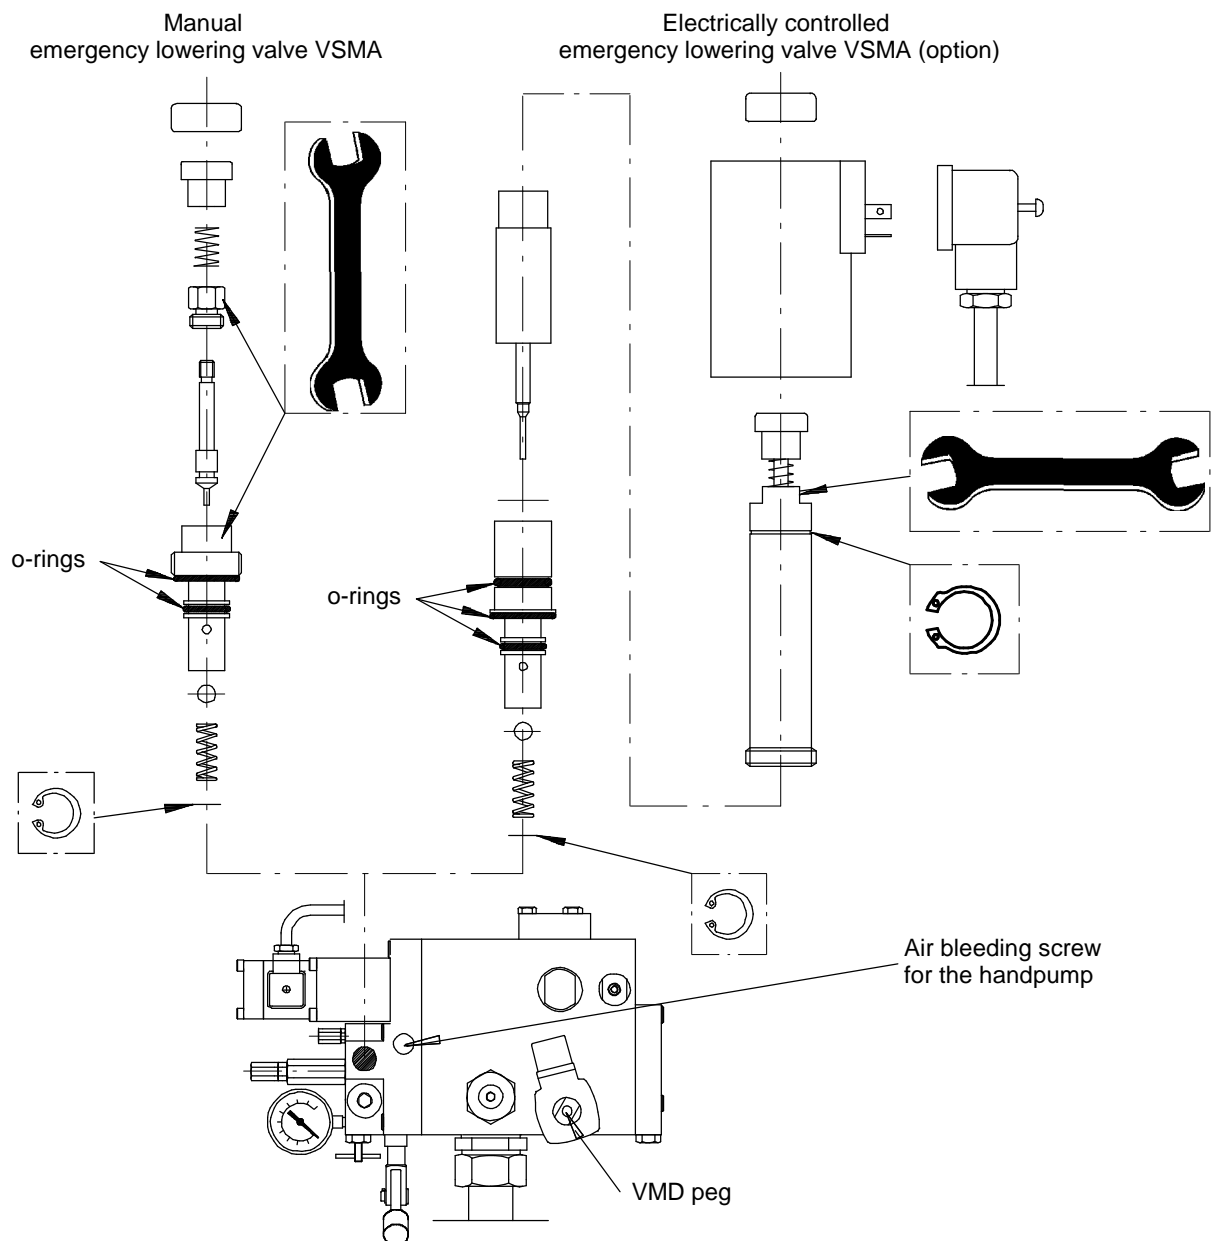

Fig 10.8 Dismantling of the Emergency lowering valve VSMA
3. Remove the VSMA valve according to Fig. 10.8.